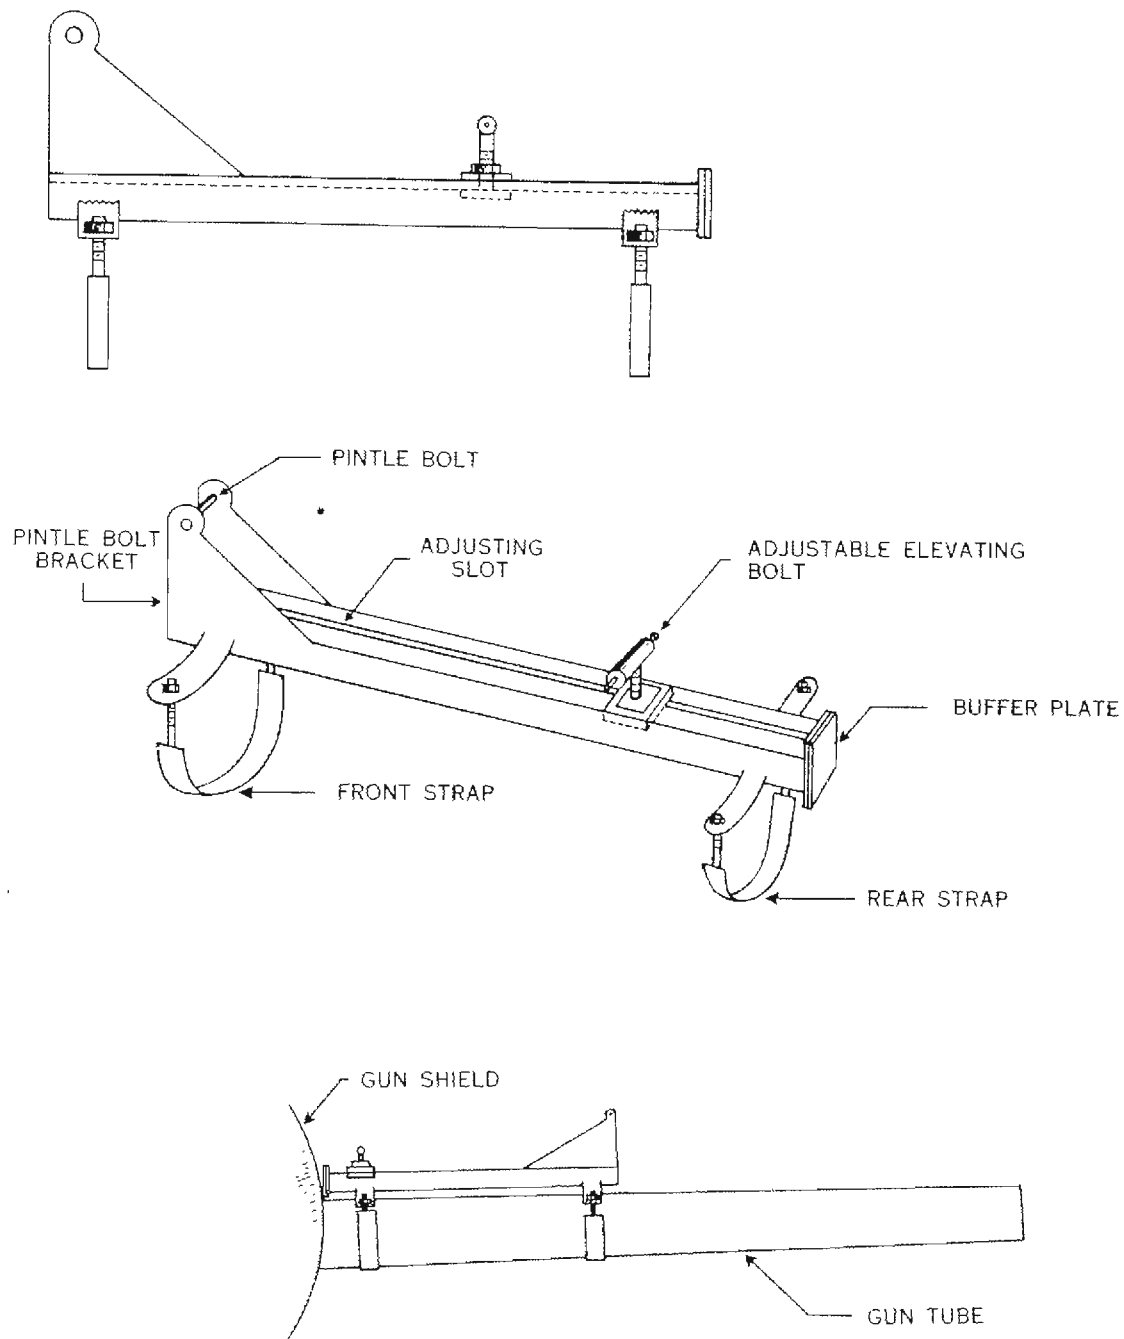

Figure 42
c. Care and cleaning of the M6 sub-caliber mount.--(1) After firing, both the rifle and the primary weapon must be cleaned in the manner prescribed in TR 1395-A.
(2) The tube of the sub-caliber mount must also be cleaned. This can be accomplished effectively by tacking emory cloth on a long stick which has been shaved down to fit into the tube. This cleaning must remove all the carbon deposited in firing, as this carbon will accumulate and cause ricochets inside the tube.
d. Machine guns.--A sketch of the improvised strap mount for machine guns is shown in figure 42.
- (1) Select a clearly defined point at an estimated range of 800 yards.
- (2) Fire one round and adjust (by moving the traversing and elevating mechanisms of the destroyer) until the strike is on the selected point.
- (3) Without moving the machine gun, adjust the destroyer sight until the zero lead, 800-yard range point, is on the strike.
- (4) Clamp the machine gun and the destroyer sight in position.
e. A sketch of the improvised strap mount used with the machine guns is shown in fig. 42.